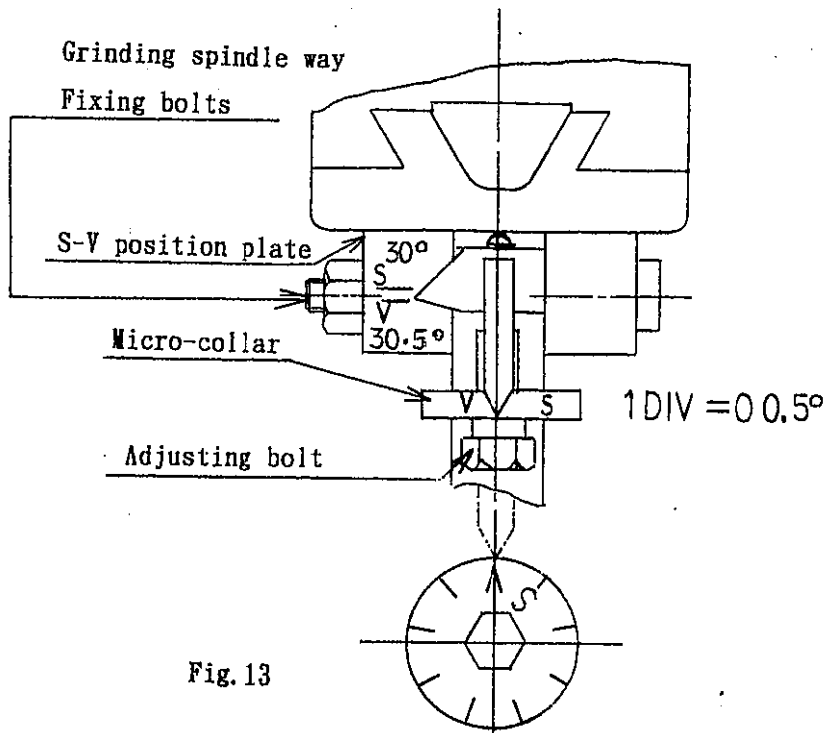

Fig. 13
- Rotate the micro collar of adjusting bolt for fine angle from the valve seat position to the right direction by 6 divisions to corresponded with V on the micro collar. While the mark of 30.5° on the S-V position plate 68 is in agreement with the pointer A 69. (As shown in Fig. 13)